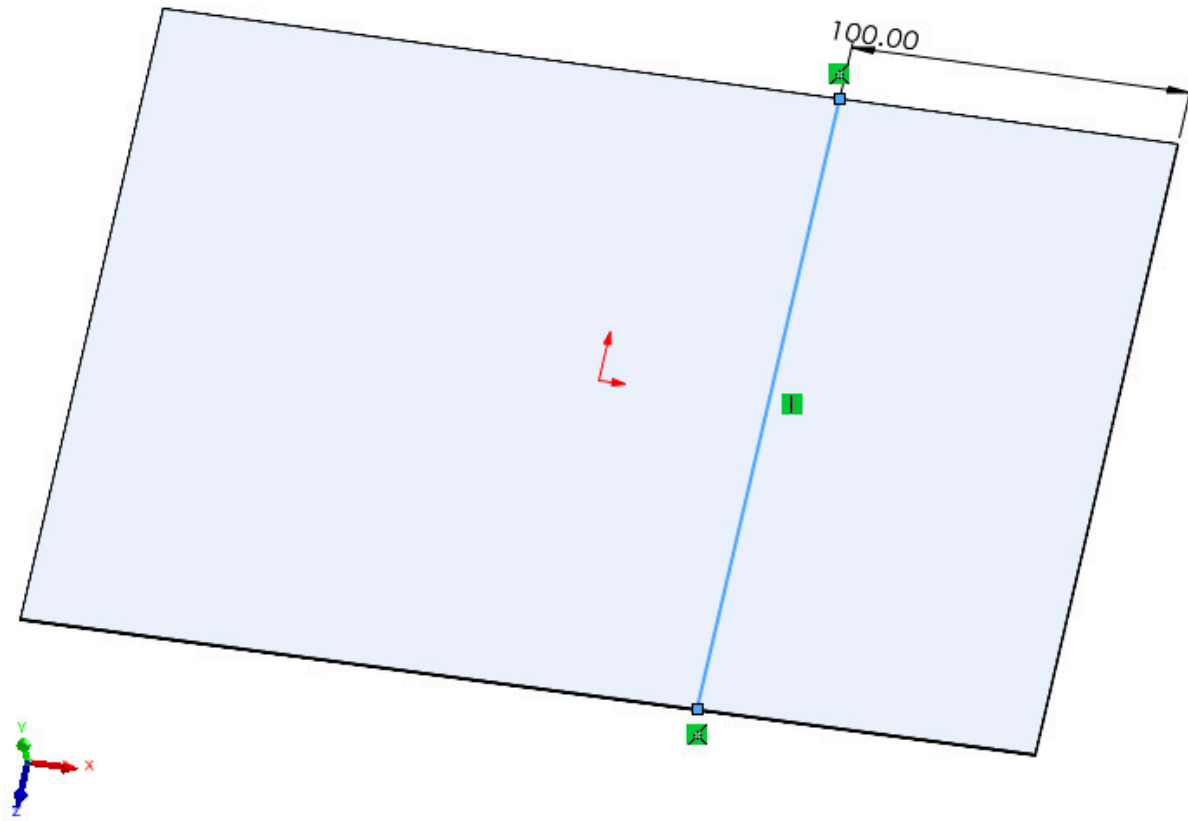

Figure 3.21: Creating a sketch for use with the Jog feature
3. Use the **Line** tool to sketch a line directly across the **Base Flange**, making it **Vertical** and **100mm** from the edge (*Figure 3.21*).
11. **Jog Angle:** Finally, the **Jog Angle** property (labeled  $\nu$  in *Figure 3.21*) can be set. Both bends in the **Jog** feature will use the same angle, meaning that the upper section of the **Jog** will always be parallel to the Fixed Face.